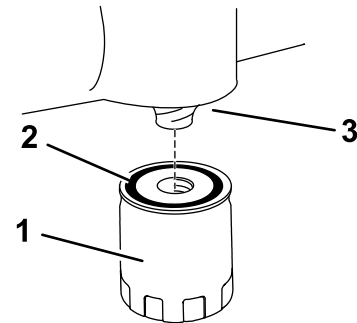

Figure 32
13. Install the replacement oil filter to the mounting pad. Turn the oil filter clockwise until the rubber gasket contacts the pad, then tighten the filter an additional 2/3 to 1 turn (Figure 32).